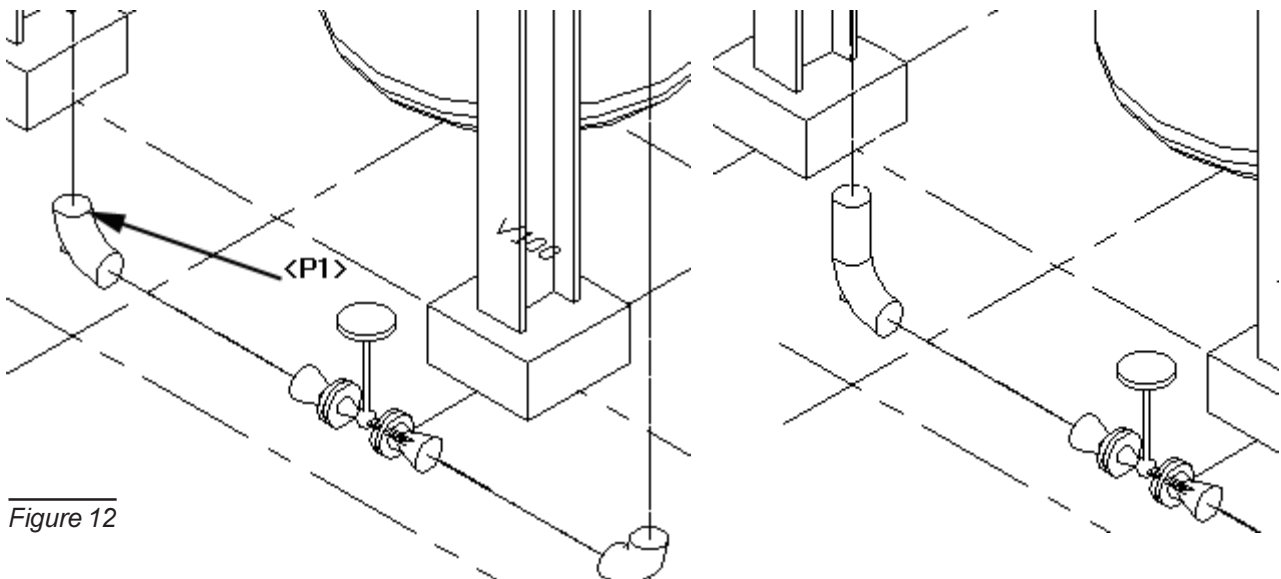

Figure 12
We will place a piece of pipe and a valve from the elbow on the left vertical run. Refer to Figure 12.
Select the entrance of the left elbow, <P1> in Figure 12.
*(Type 1' at command prompt, hit return, and one foot of pipe is placed at the end of the elbow. See Figure 12)*